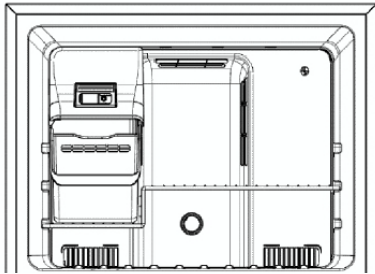

Figure 13
10. To install the ice bin, the freezer shelf needs to be in the lowest position. Slide the ice bin between the side wall and the right side of the ice maker housing positioned on the shelf. See Figure 13.